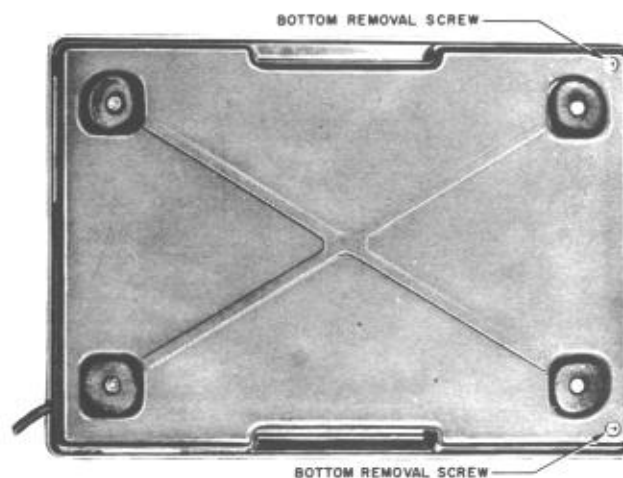

Fig. 1 — Location of Bottom Removal Screws
2. Remove operate (O) button by loosening lock screw on underside.
3. Loosen the two hex head socket set screws in the back edge of base and the two hex head socket captive screws near the front edge of the bottom of base (see Fig. 1 and 2).